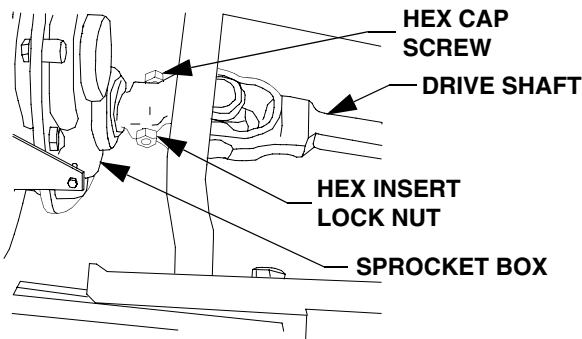

Figure 4
2. Slide the front end of the drive shaft onto the input shaft of the sprocket box assembly on the rear of the snow thrower. Align the holes and secure with hex cap screw (10, Fig.2) and hex insert lock nut (16, Fig.2). See Figure 4.